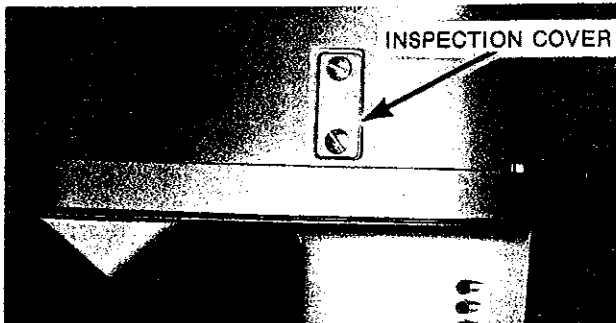

Figure 1. Remove inspection cover.
- A. Use a flat tip screwdriver to remove the two flat-head screws holding the inspection cover. Remove cover (Figure 1).